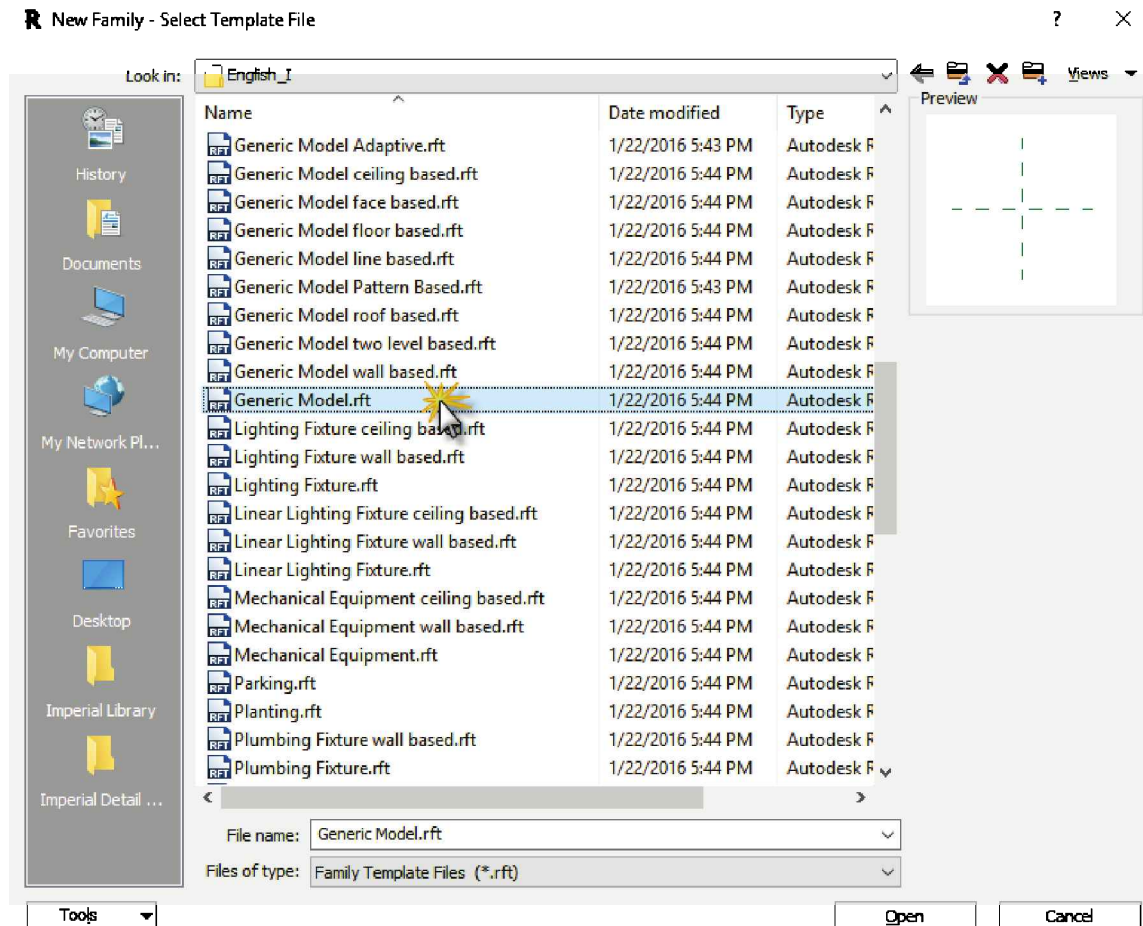

FIGURE 18-2.2 Selecting a Family template file
3. Select **Generic Model.rft** and then click **OK** (Figure 18-2.2).